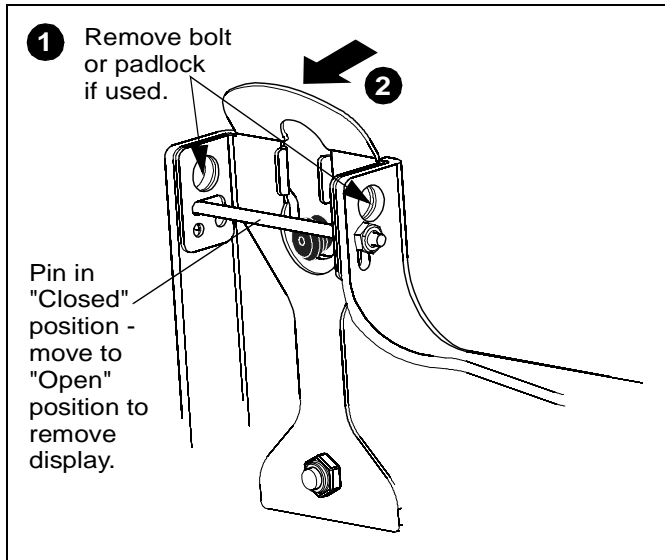

Figure 18
2. Pull back on flag on upper mounting hole and press pin down into "Open" position. (See Figure 18)